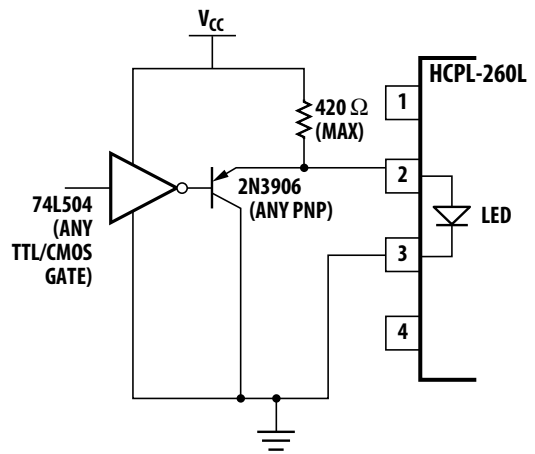

Figure 15. TTL interface circuit
1. Use of drive circuits where current is shunted from the LED in the LED “off” state (as shown in Figures 15 and 16). This is beneficial for good  $CMR_H$ .
Figure 15 shows a circuit which can be used with any totem-pole-output TTL/LSTTL/HCMOS logic gate. The buffer PNP transistor allows the circuit to be used with logic devices which have low current-sinking capability. It also helps maintain the driving-gate power-supply current at a constant level to minimize ground shifting for other devices connected to the input-supply ground.